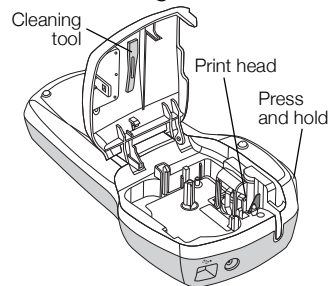

Figure 7
- 2 Press and hold the cutter button to expose the cutter blade. See Figure 7.
- 3 Gently wipe the padded side of the tool across the print head. See Figure 7.